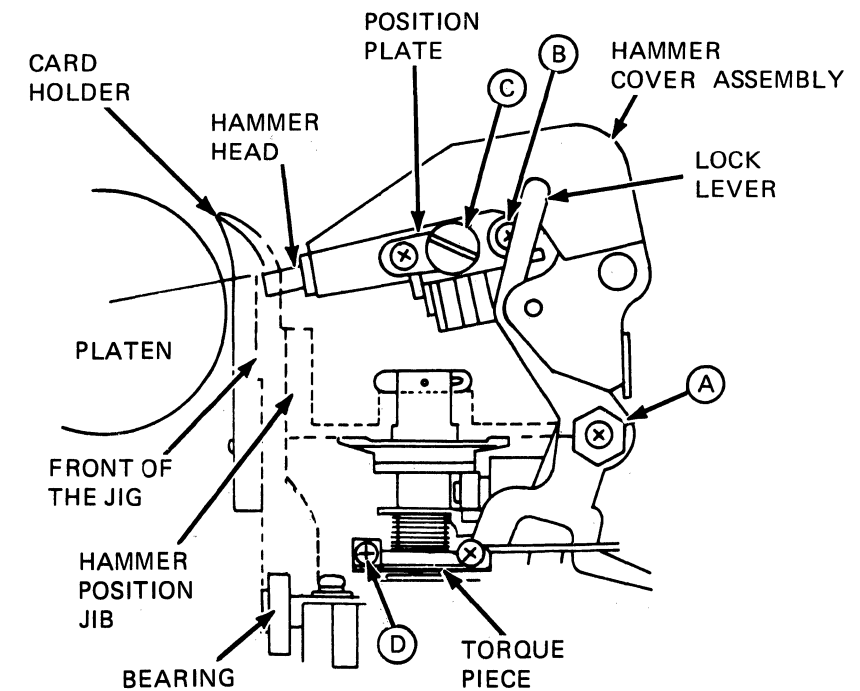

Figure 5-1 Print Hammer Adjustment
- a. Loosen the screw securing eccentric stud A (see Figure 5-1).
Use this procedure to adjust the hammer position (see Figure 5-1).
- c. Loosen the holding screws B and C on both sides of the hammer (see Figure 5-1).
- c. To adjust, turn the power off. Loosen screw D (see Figure 5-1) of the torque piece. Turn the power on and turn the torque piece for proper alignment. Tighten screw D.